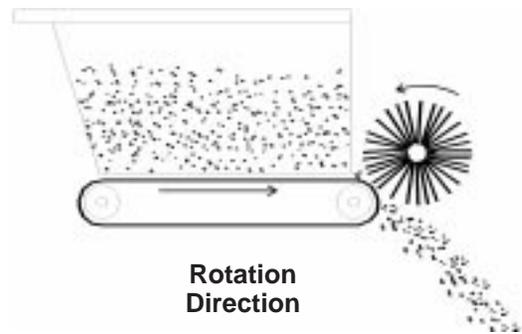

Figure 15
1. Start vehicle engine and test rotation of the conveyor and brush. Place remote hydraulics lever of Workman in the "run" position. The rotation should be as shown in figure 15. If the rotation is backwards the quick couplers need to be reversed.